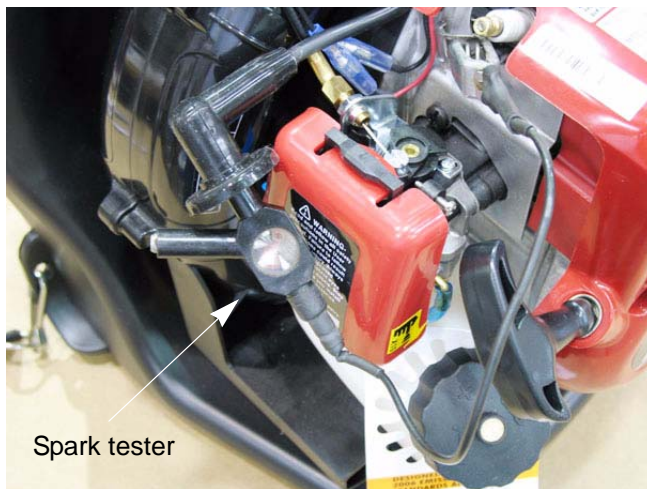

Figure 4.1
- 1a. Make sure the engine run switch is in the on (1) position.
- 1d. Connect the other end of the spark tester to the engine block. See Figure 4.1.